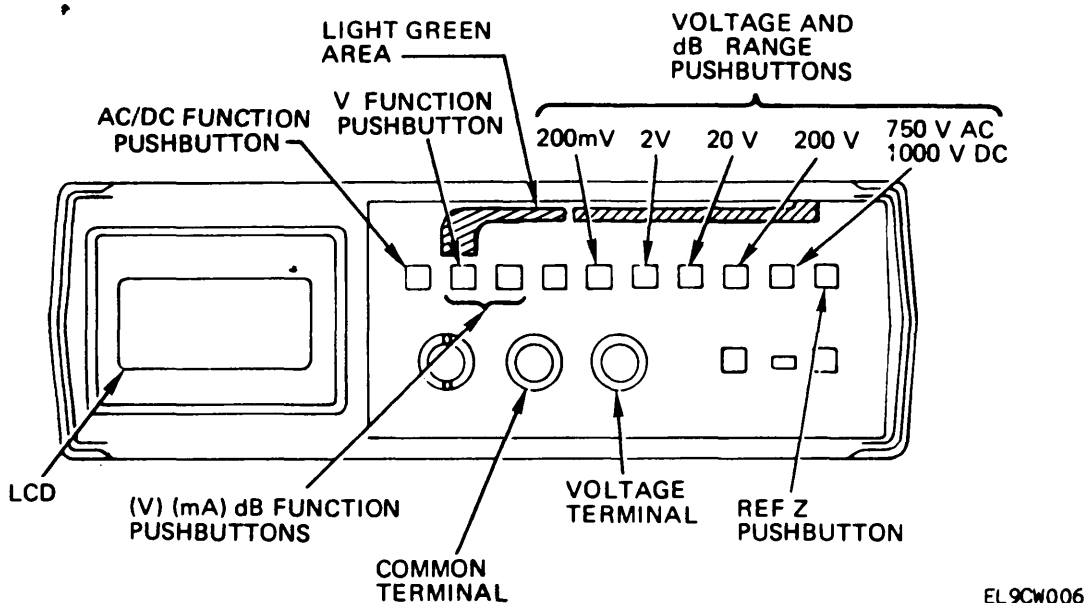

Figure 1-5. Voltage Measurement Controls
(1) **Linear Voltage Measurements.** This multimeter will make either linear or dB voltage measurements. The controls and terminals for making linear and dB voltage measurements are shown in figure 1-5. The AC/ DC function pushbutton is used first to select whether ac or dc voltage is to be measured. Next the V function pushbutton is depressed to set up the meter input circuitry to measure voltage. The light green area above the V pushbutton extends up and to the right to enclose the five range values of the voltage function. Depress the desired voltage range pushbutton for the expected voltage being measured.
(3) dB Voltage Measurements. The controls and terminals for making dB voltage measurements are almost the same as those for linear voltage measurements (figure 1-5). One major difference is that both the V and mA function pushbuttons must be depressed at the same time to select the dB function. The five range pushbuttons are enclosed by a dark blue area and are the same as the linear voltage ones.
(4) Stored Reference Impedances. The standard dB voltage measurements are referenced to 600 ohms for 0 dBm. This standard reference impedance comes up automatically when the multimeter is turned on and dB voltages selected. The multimeter also has 15 other reference impedances (table 1-1) stored for use if needed. To select one of the 15, select dB and depress the REF Z pushbutton. For the first 3 seconds, the LCD will display the standard reference impedance of 600 ohms. Then the other 15 stored reference impedances will appear sequentially on the display at the rate of about one per second. When the reference impedance you want to use appears, select any one of the dB ranges. The sequence will stop and the microcomputer will store the displayed impedance as the reference. Normal dB measurements can now be resumed. The multimeter will continue to use the selected reference impedance until you select another or the multimeter is turned off.